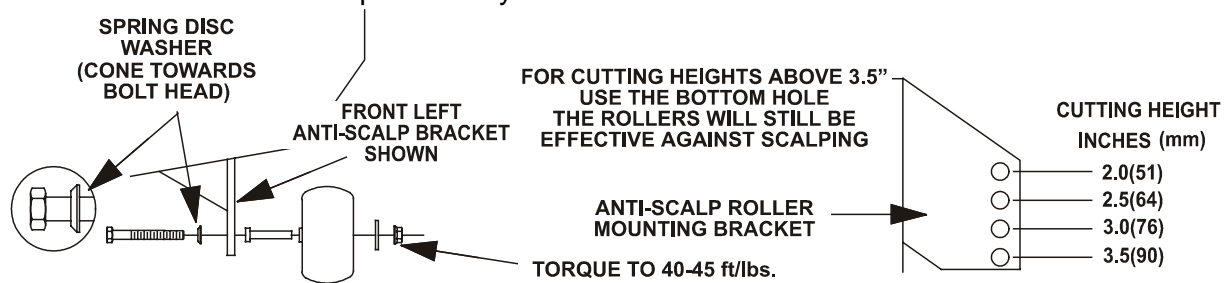
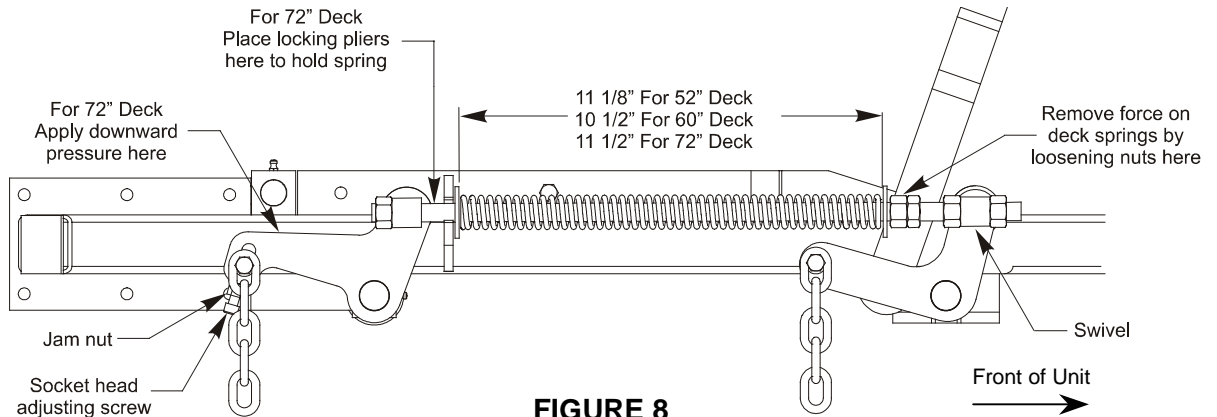

**FIGURE 6
FIGURE 8
- c) Raise the deck lever to the transport position (also the 5" cutting height position). See Figure 6.
- Check tire pressure of all four (4) tires. If needed, adjust to 13 psi (90 kPa).
- Raise the deck to the 5" height position (also transport position) and take all force off of the two large deck lift springs by loosening the nuts at the front of each spring. See Figure 8.
For 72" units – Lower the deck to the 1-1/2" height position. Force the left rear deck support arm downward about 1/4" to get the deck to rest at the 1-1/2" height position. Place locking pliers between the rear swivel and spring stop to hold the deck in this position. See Figure 8.
- l) Raise deck lift lever to the 5" cutting height position See Figure 6. Adjust spring compression until proper distance is obtained between the two large washers (See Figure 8). Adjustment is made by turning the nut at the front of each spring (clockwise will shorten the spring, counter-clockwise will lengthen the spring). Lock in position with jam nuts.